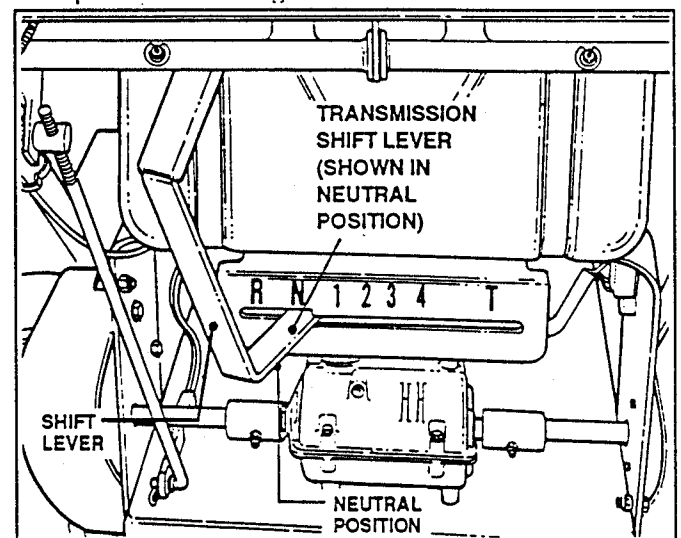

FIGURE 6
3. Place Transmission Shift Lever in **NEUTRAL (N)** position. See Figure 6.
9. Place Transmission Shift Lever in No. 1 position (first gear) See Figure 6.